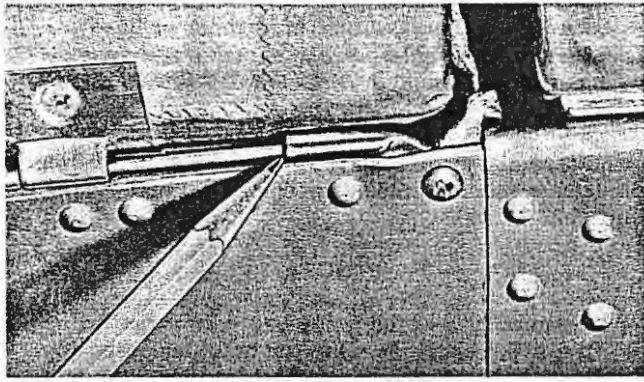

Figure 2-21. Aileron Hinge Wire Safety Lug
- c. Fit hinge wire into outboard hinge loop and squeeze loop together to secure hinge wire. Fit hinge wire into safety lug at inboard end of aileron (figure 2-21).